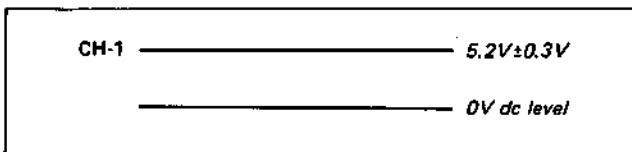

Fig. 4-3-2. Drum free speed adjustment
- (5) Adjust RV10 for $5.2\text{ V} \pm 0.3\text{ V}$. (See Fig. 4-3-2.)